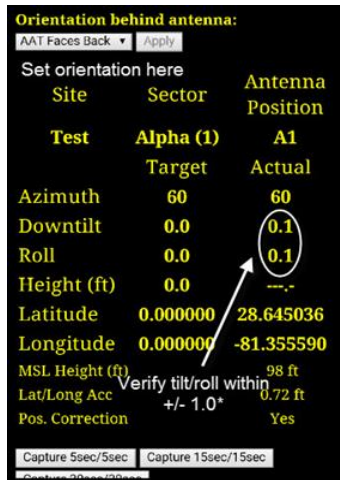

Figure 4-3
- d. On the following page, set the orientation and ensure that the AAT is within +/- 1 degree of level in both tilt and roll. Adjust the tripod leg height as necessary to obtain acceptable tilt and roll values. See Figure 4-3.